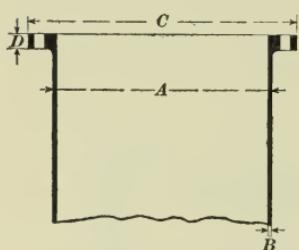

FIG. 2
**10.** Flanged wrought-iron pipe can be made with forged flanges welded on, as shown by the end view and section in Fig. 2. The lengths are made to suit conditions. As screw joints cut into the pipe and thus reduce the
strength, the pipe with forged flanges will stand a greater pressure and hence can be lighter in weight for the same pressure than ordinary pipe. By the use of these welded flanges, a large amount of the hand labor in erecting can be saved. Table VI, known as the Master Steam-Fitters' Standard, is adopted for these flanges. The letters *A*, *B*, *C*, *D*, and *E* heading the first five columns relate to the dimensions shown by the same letters in Fig. 2.